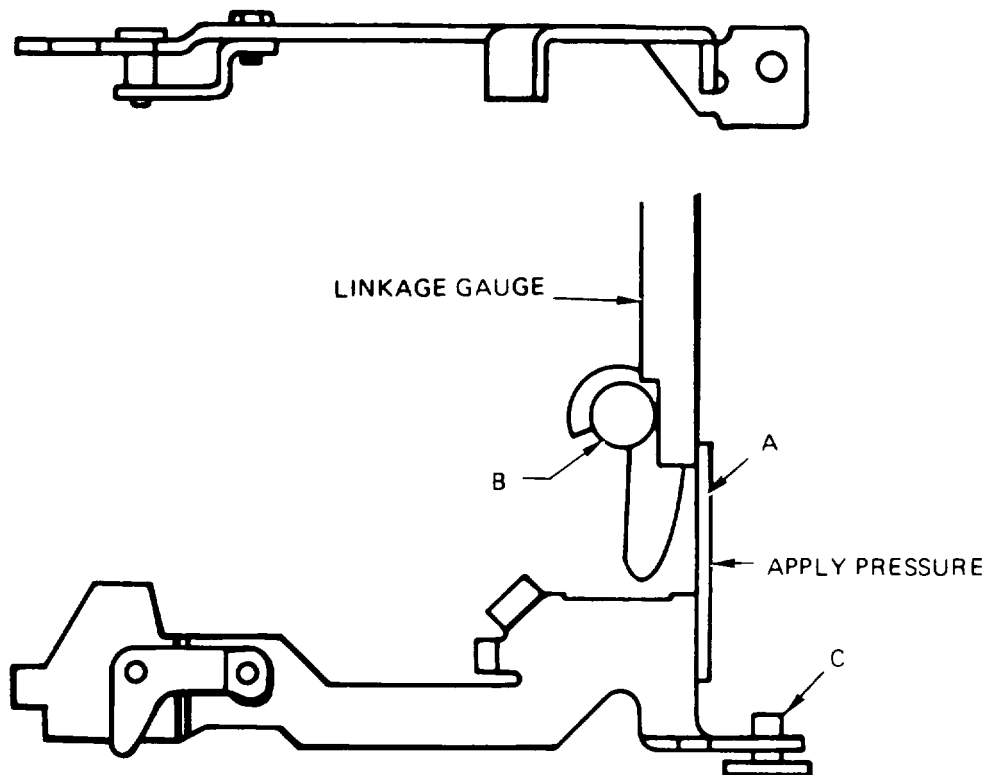

Figure 3-23. Throttle Linkage Adjustment
- (43) Assemble the throttle shaft assembly (26) with lever (35) installed partially into position through the housing. Slide the spacer bushing (44) and the throttle shaft lever (45) over the throttle shaft so that the projection on the throttle shaft lever bore engages the keyway on the shaft. Position the throttle lever so that its forward tab straddles the linkage hook tab. Apply a light coat of grease to the throttle and shut off seals (41 and 42). Assemble the shutoff shaft assembly (24) from the opposite side of the housing with a slight rotary motion. Locate and secure shutoff cam (25).
- (44) Rotate the shaft until a click is heard. This is the governor arm (86) engaging the governor thrust sleeve.
- (45) With the throttle shaft in the wide open position, check the clearance between the rear of the throttle shaft (B) and the vertical tab (A) on the linkage hook. This clearance should be 0.210 to 0.225 inch. (See figure 3-23.)